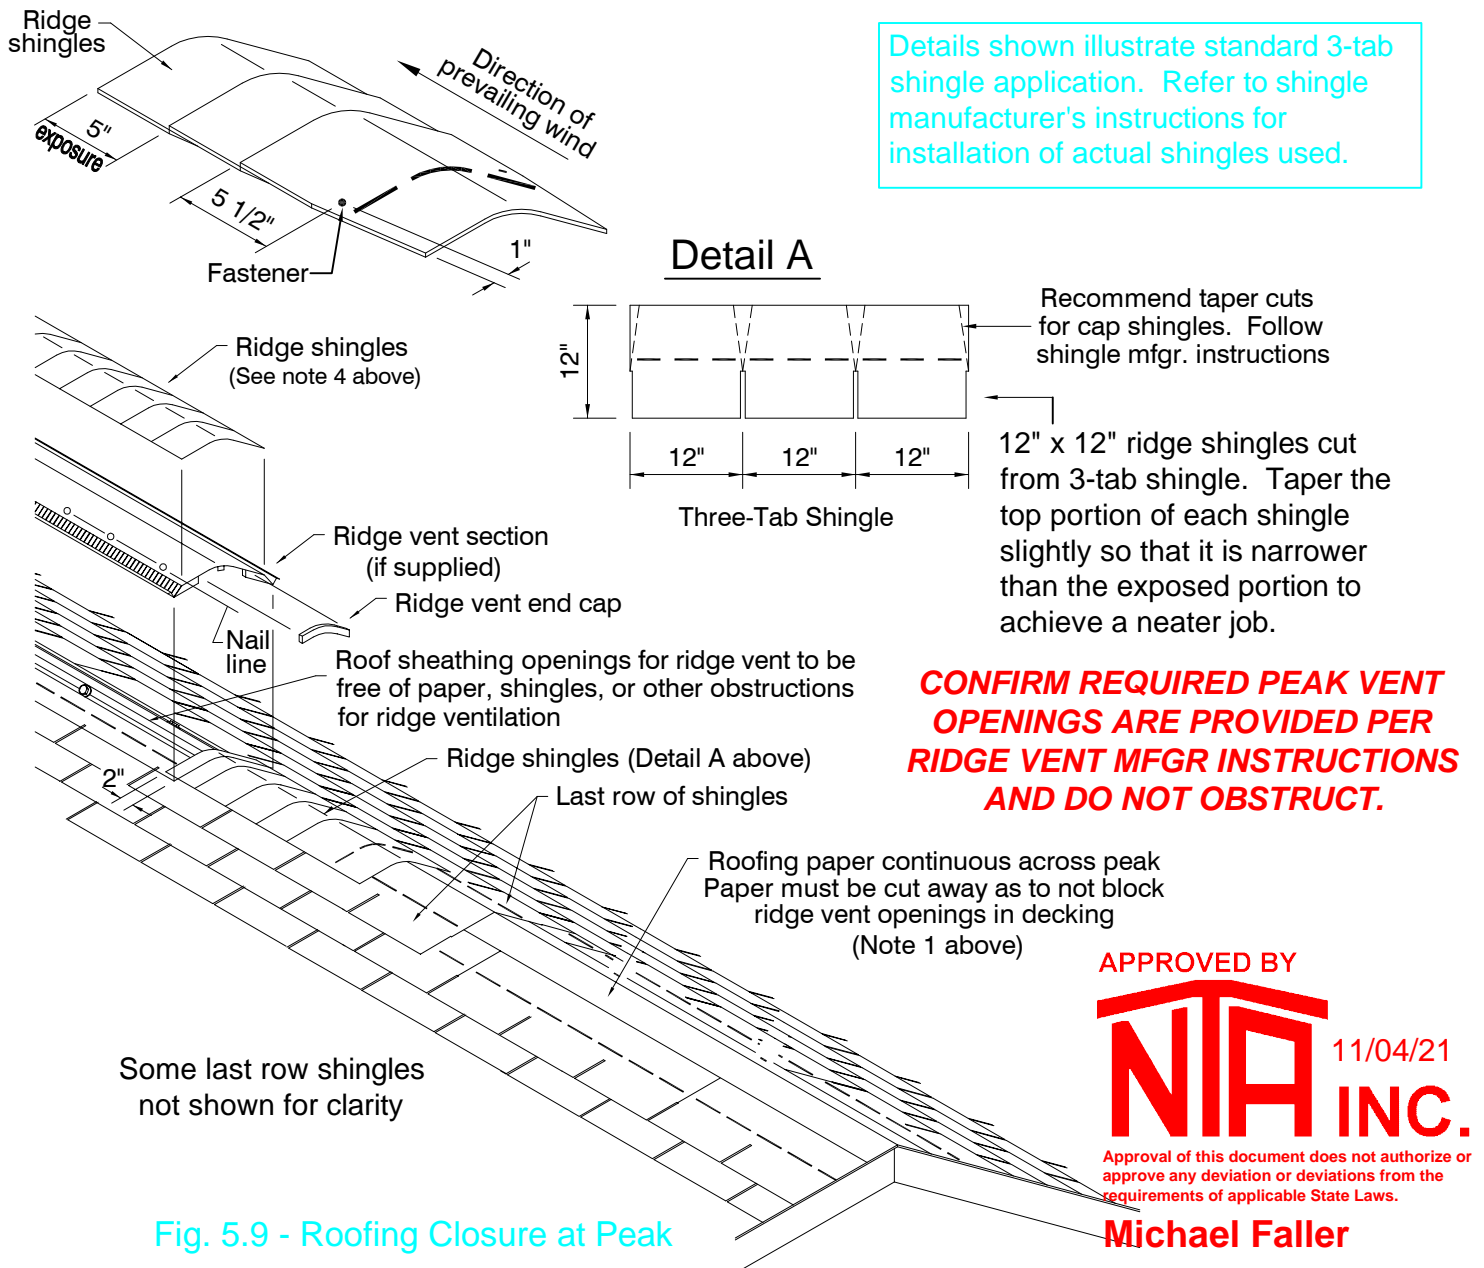

Fig. 5.9 - Roofing Closure at Peak
5.6. Roofing Closure at Mating Line Roof Peak (See Figure 5.9)